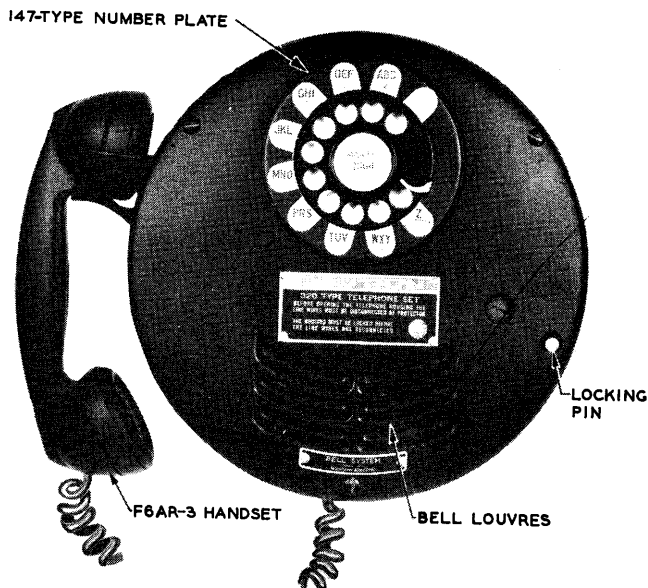
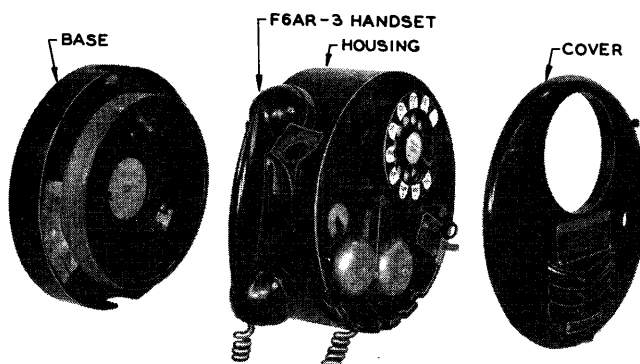

Fig. 1 — 320-type Telephone Set
Fig. 2 — 320-type Telephone Set, Exploded View
**2.01** The 320-type set as shown in Fig. 1 consists of four major parts: handset, base, housing, and cover (see Fig 2). The latter three parts are made of cast iron or high tensile strength aluminum alloy to withstand any explosion within the set. The 320ER set is intended for manual service. The 320FR set is to be used in dial areas.